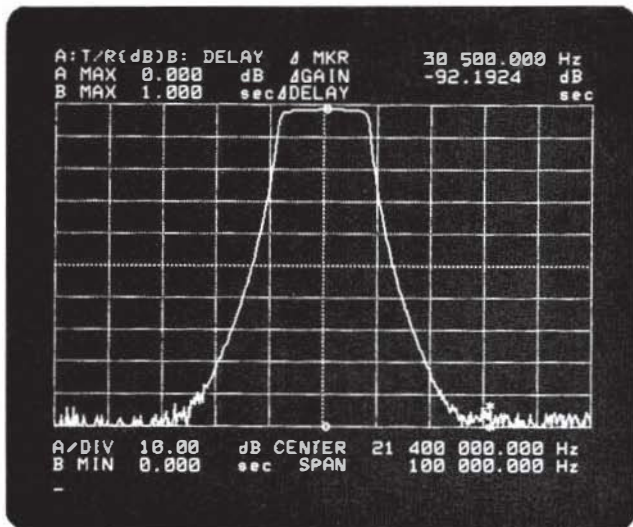

Figure 23. Measurement of Relative Attenuation
4. The key operation  and  causes the relative attenuation to be displayed. (See Figure 23.)